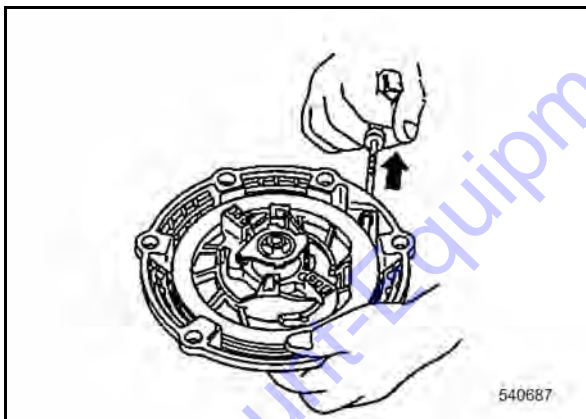

Fig. 63
- Pull the starter rope with the starter handle out completely (Fig. 63).